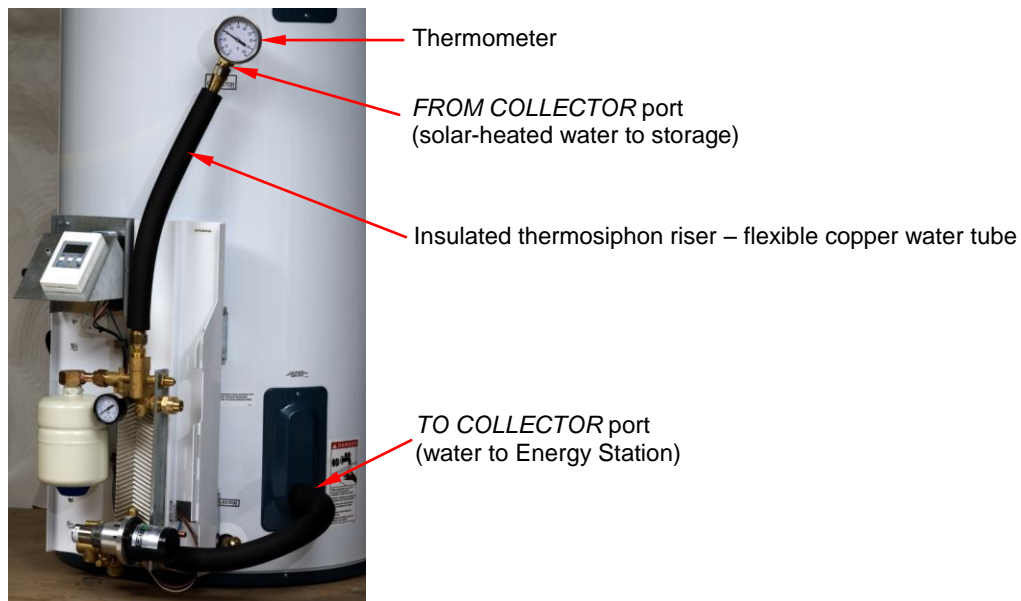

Fig.4.3.2 – (single-tank) Appliance thermosiphon loop
6. Using two hands and a firm grip, bend tube such that upper flare-cone seats onto flare fitting (¾"-MNPT x 5/8"-flare) of *FROM COLLECTOR* tee. Orientation of *FROM COLLECTOR* tee may be adjusted slightly to facility seating (*Fig.4.3.2*). Ensure bend radius is smooth and tube is not kinked or creased.